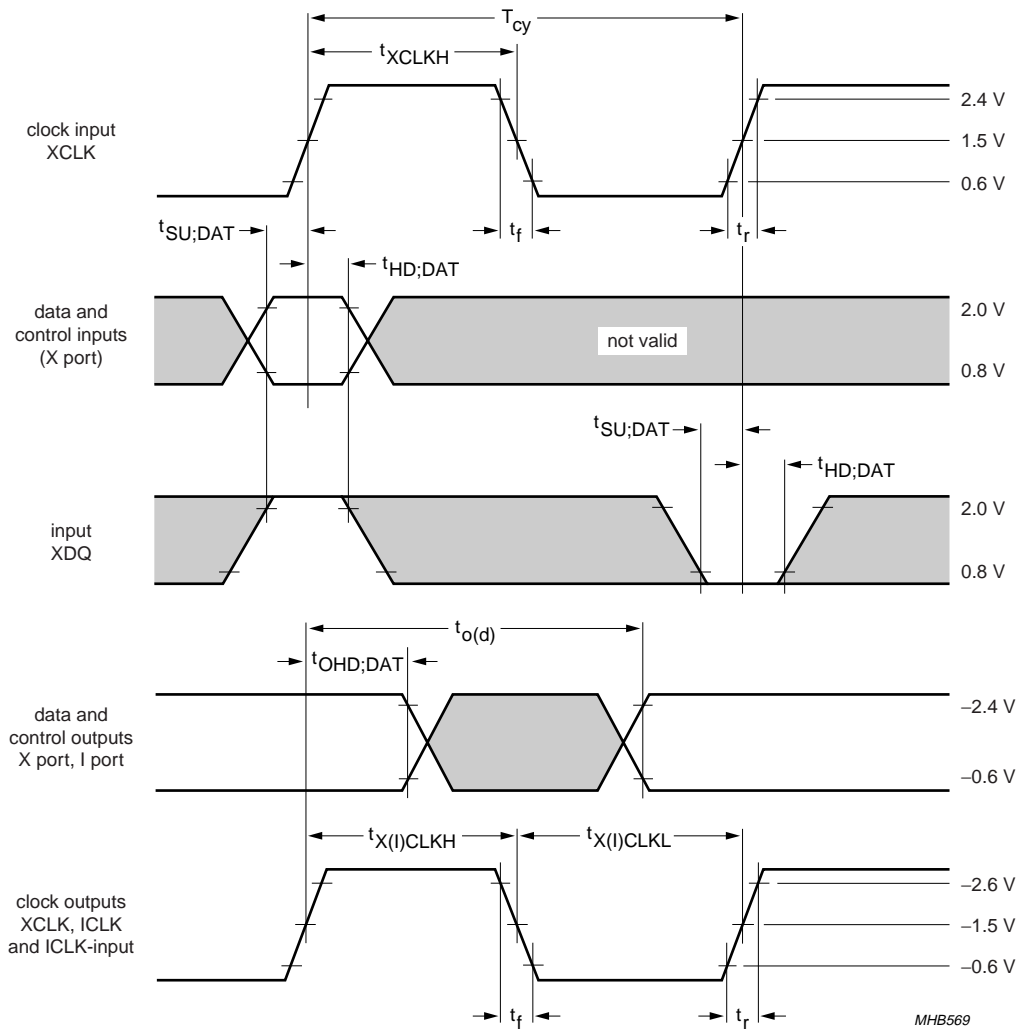

Fig.39 Data input/output timing diagram (X-port, RT port and I-port).
2. The effects of rise and fall times are included in the calculation of  $t_{OHD;DAT}$  and  $t_{PD}$ . Timings and levels refer to drawings and conditions illustrated in Fig.39.